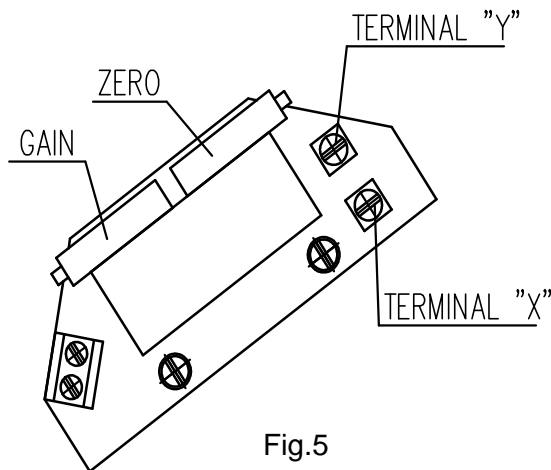

Fig.5
4.4.1 EPV – the 2-wire version (Fig. 5,5a)
- Adjust the resistive transmitter according to the previous chapter. The resistance is to be metered on the terminals X-Y (Fig. 5,5a). The used transmitter resistance is 100 Ω.
- Turn the adjusting trimmer ZERO (Fig. 5,5a) to adjust the output current signal rate measured on the terminals 81-82 to 4mA.
- Turn the adjusting trimmer GAIN (Fig. 5,5a) to adjust the output current signal rate measured on the terminals 81-82 to 20mA